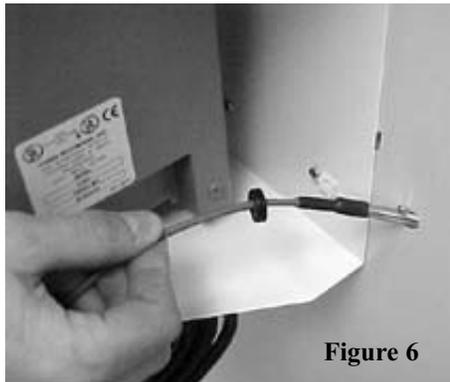

Figure 6
11. Mark and drill a 7/16" hole in the outer cabinet, approximately 1" behind the recorder bracket (Figure 6) and smooth the edges of the hole.
12. Install 5/16" rubber grommet over the recorder probe and onto the probe wire, then route the probe through the 7/16" hole and out the back of the cabinet (Figure 6).